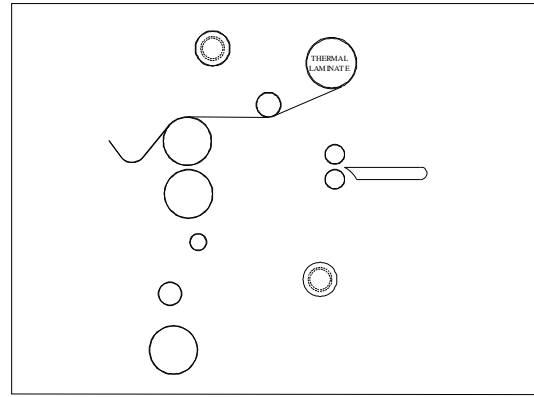

Figure 19
4. Pull the top roll film down under the upper idler bar and allow to drape over the top heat roller (Fig. 19)